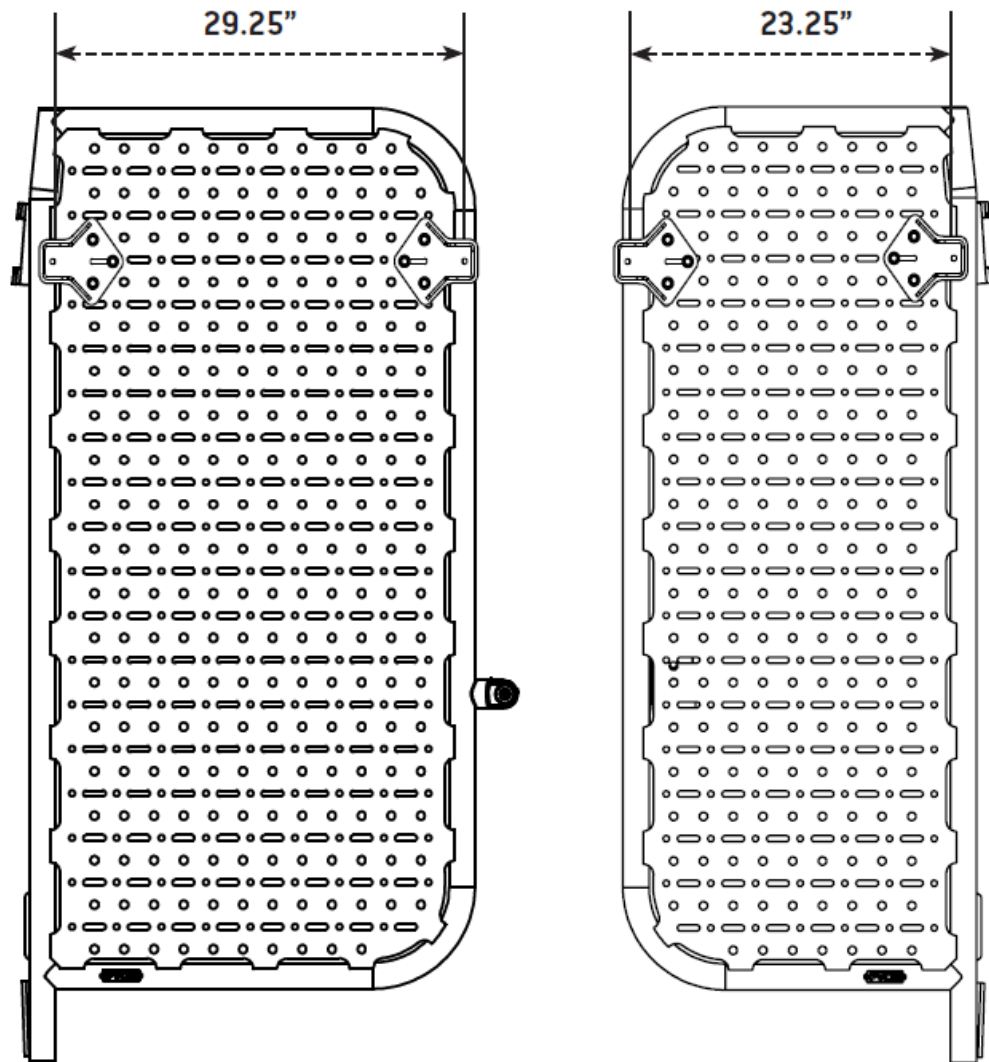

FIG 3
- **Widest Possible Install Width for Posts:** Consult FIG 3 for dimensions of the largest width between posts for the Driver and Passenger Side Rear Door Platforms.
- **Position:** See FIG 3 for largest width between posts for the Driver and Passenger Side Rear Door Platforms.